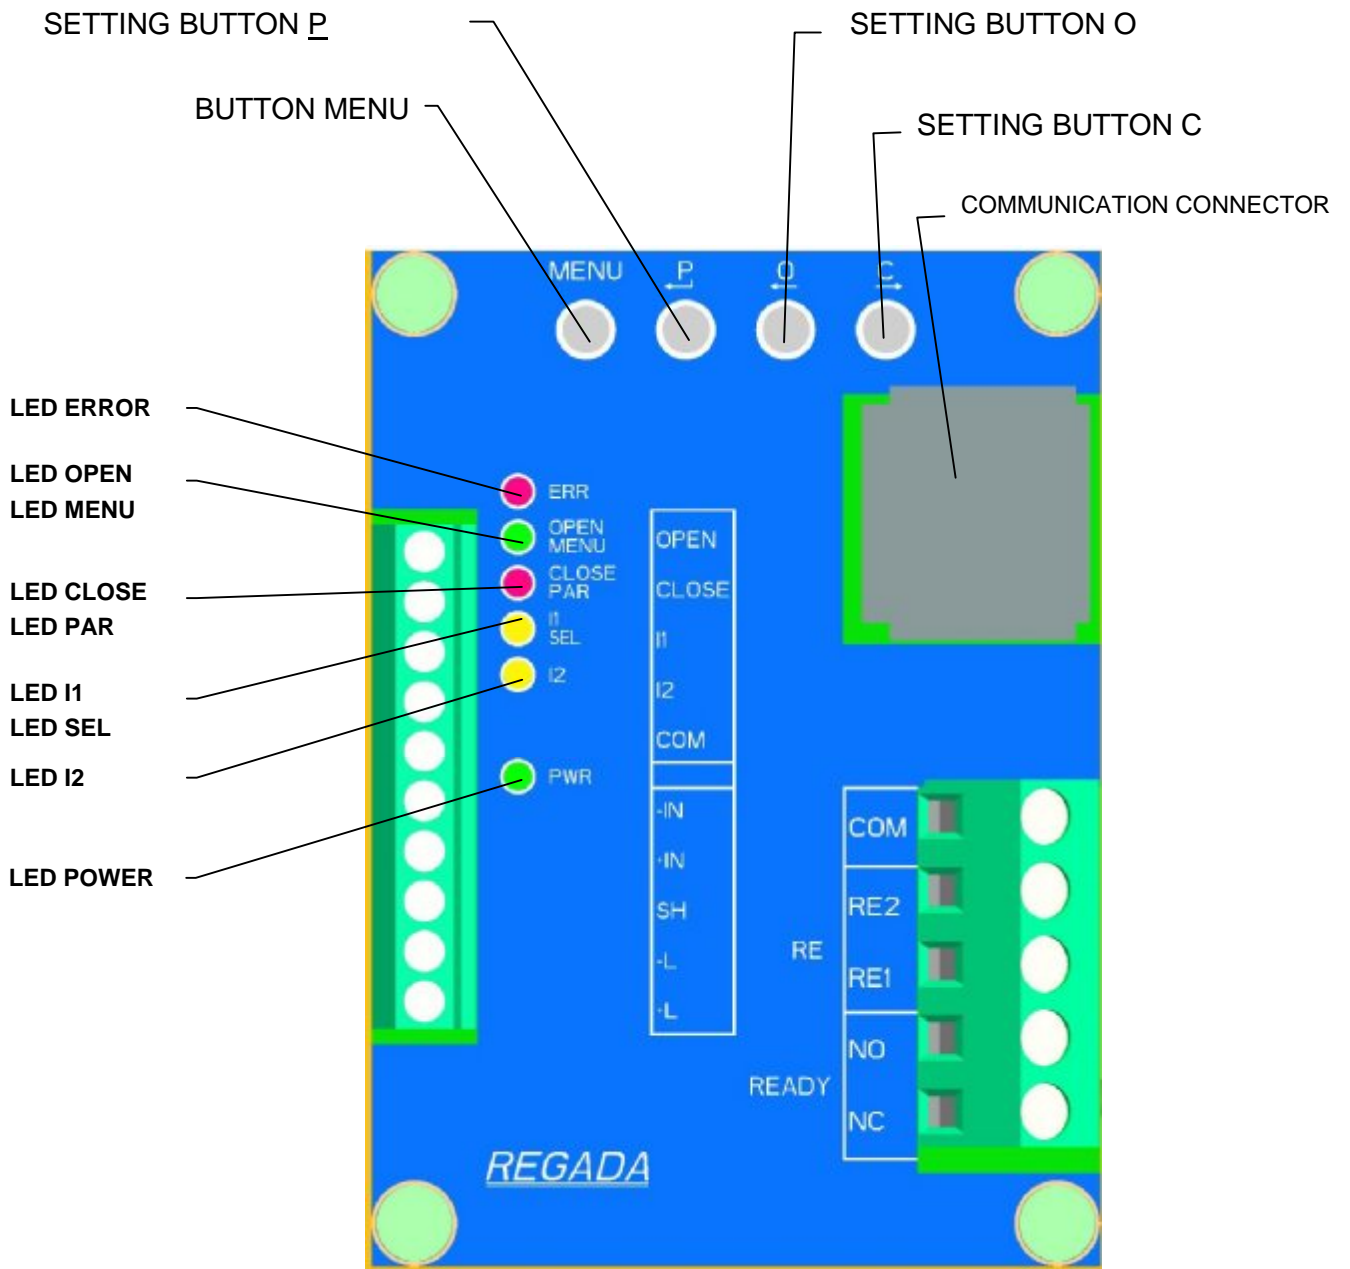
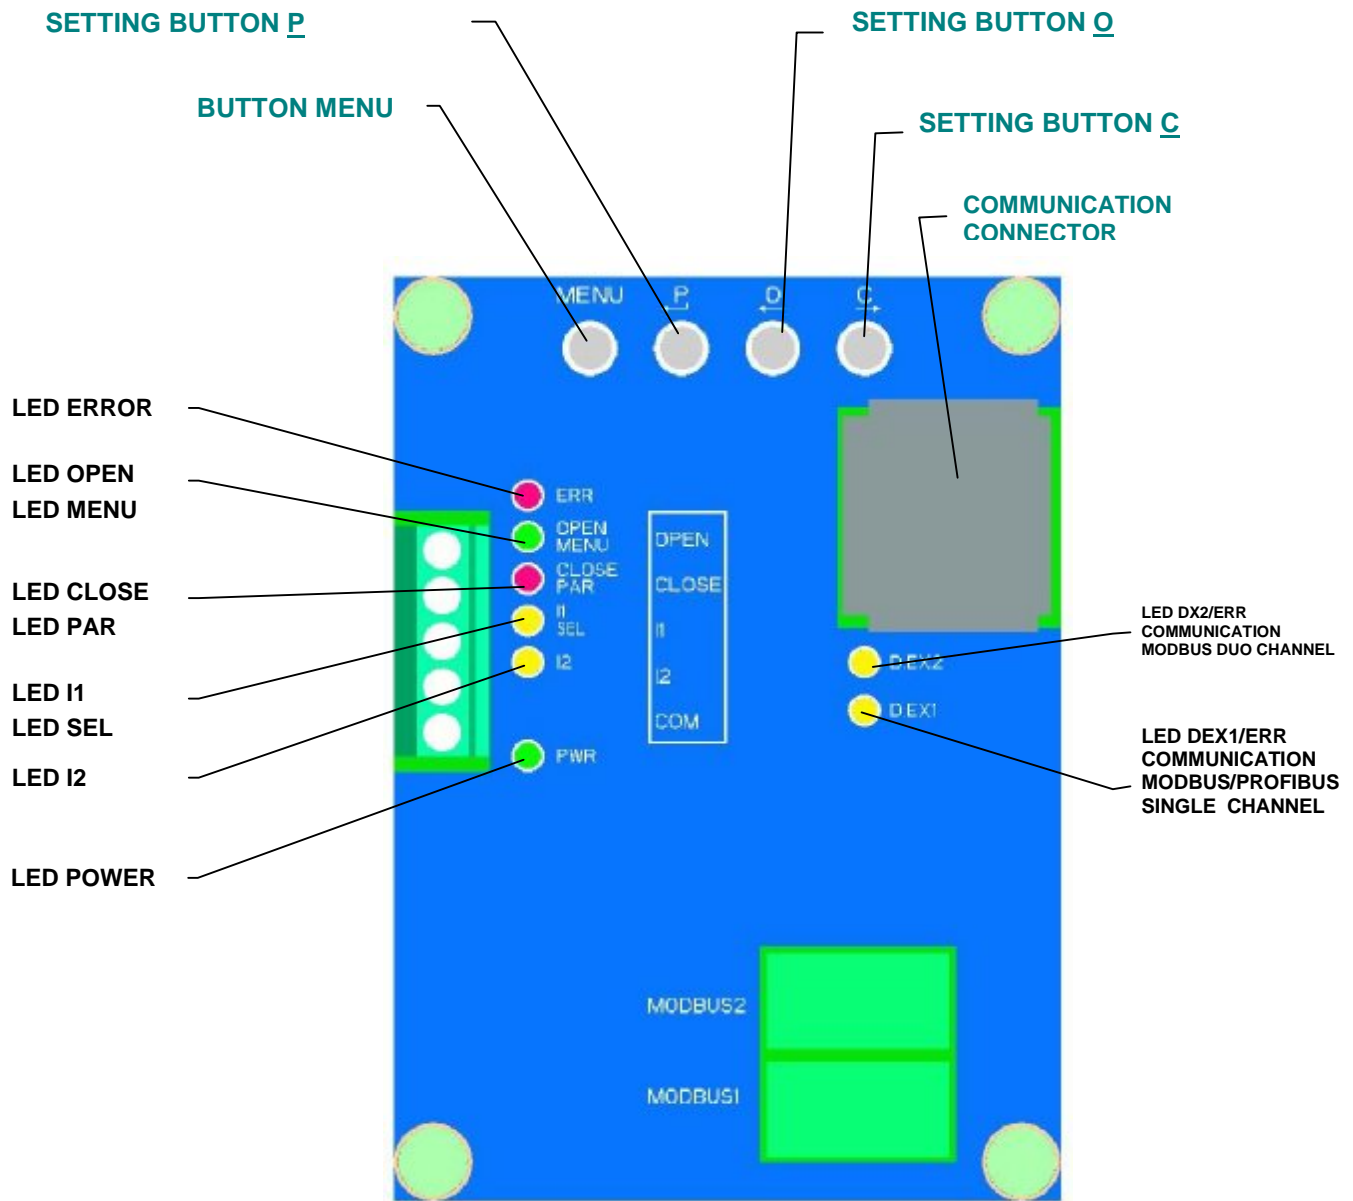

Fig. 7
Fig.7a
Adjustment is made onto mechanical and electrical connected actuator. This chapter describes how to set up the EA to parameter values within a range applicable for the software. Location of adjustable parts of control board is on **Fig. 7** resp. **Fig.7a**.
- by operating the control unit buttons (see Fig. 7 resp. Fig. 7a);
- six signal lamps according (LED diode) to **Fig. 7** resp. Fig. 7a.